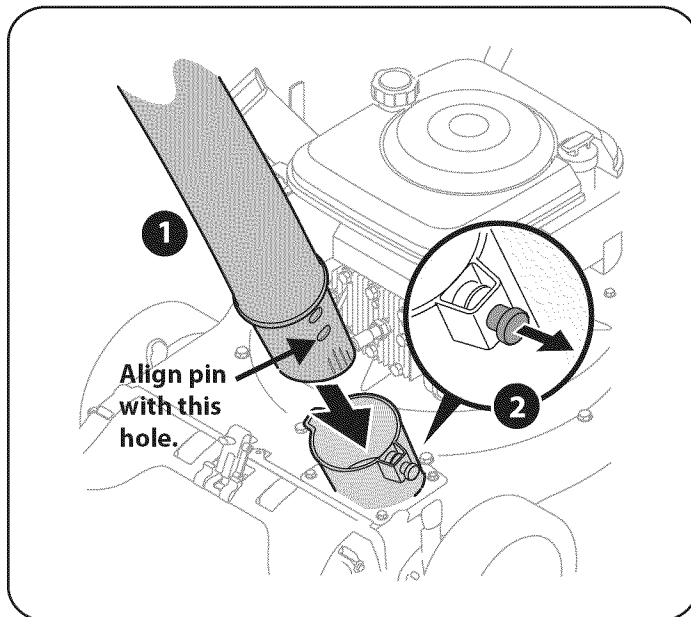

Figure 5
1. Slide hose adapter of hose assembly into the base adapter located on the left front of the Yard Vacuum. See Figure 5.